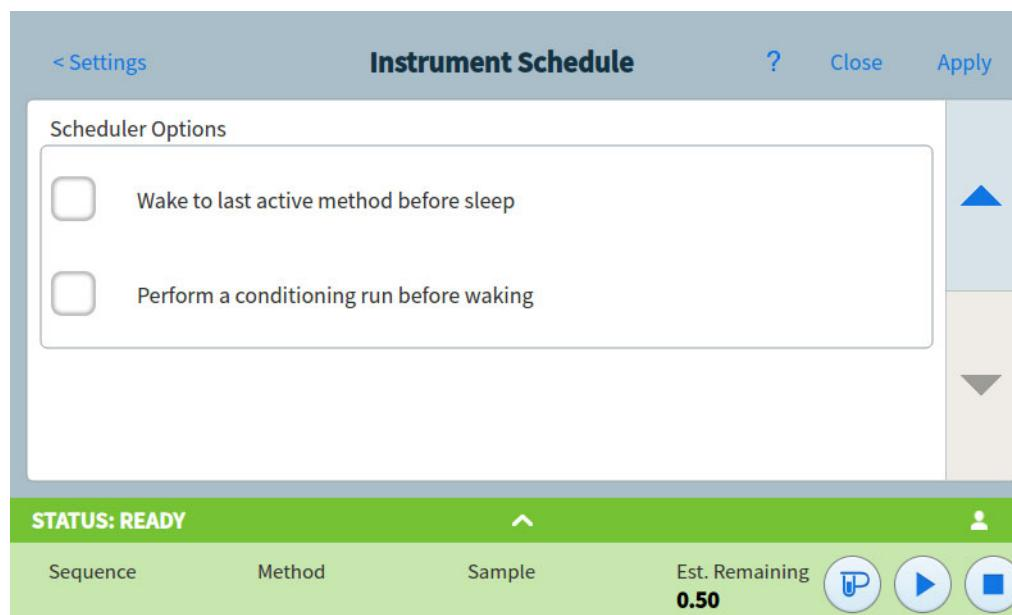

Figure 68. Scheduler Options area
- 3 Scroll to the Scheduler Options area. See Figure 68.